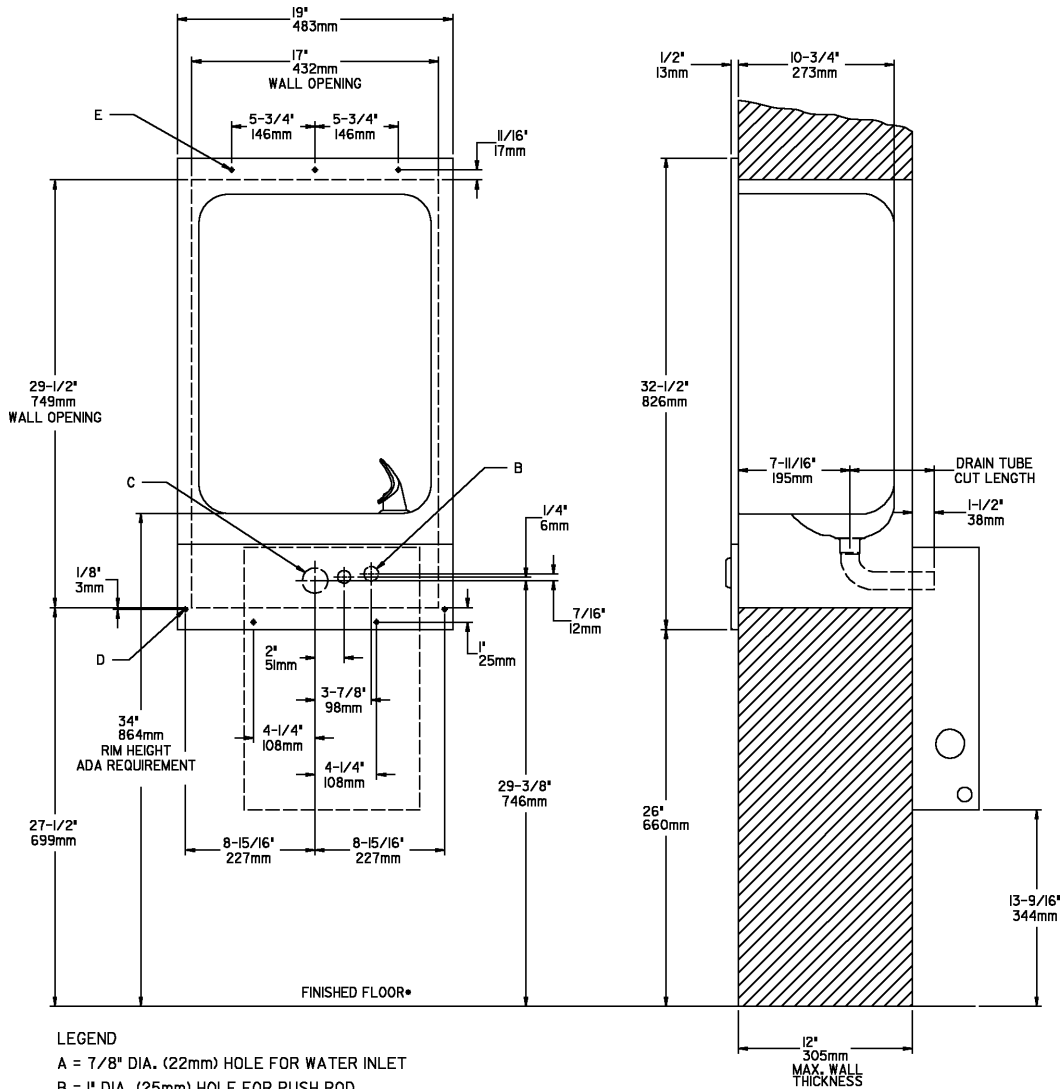

FIG. 4
1. Wall should already be framed for the fountain using dimensions shown in Fig. 4.
2. Rough-in wall that freeze resistant box is to be attached to - see box instructions.**3. Attach the hanger bracket to the wall as shown in Fig. 4 . Use bolts and flat washers (not provided). Tighten securely.****4. Cut drain tube** (supplied with freeze resistant box). Length of tube is measured from centerline of the fountain drain to the end of the tube. **Cut length is to be 6-3/16" (157mm) less than the wall thickness.****5. Attach push rod** (supplied with freeze resistant box) to push bar assy (item 6) with screw & clip (items 5 & 12). See Fig. 6.**6. Install fountain** by aligning drain tube and push rod with holes in freeze resistant box while hanging the fountain on the hanger bracket. Attach fountain to wall with screws (not provided).**7. Install freeze resistant box** and connect fountain water line to freeze resistant box - see box instructions. Install bottom cover.**8. Install a service stop (not provided)** and make water supply connection from the stop to the strainer in the freeze resistant box. **DO NOT SOLDER TUBES INSERTED INTO THE STRAINER AS DAMAGE TO THE O-RINGS MAY RESULT.**